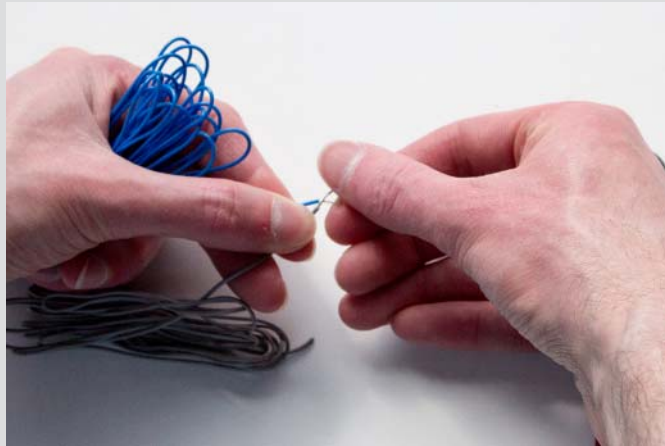

FIGURE 9-9:
There are a variety of ways to join wires and components together. Figures 9-9 through 9-12 show different ways of making connections. Important considerations are that the joint is secure and that you have a good connection; otherwise, the joint will create a high resistance or come apart.
- Wires can be twisted together (as shown in Figure 9-9) – this is a quick and easy method, but not very secure. Wrapping insulation tape helps to hold things more securely and prevents other connections from shorting.